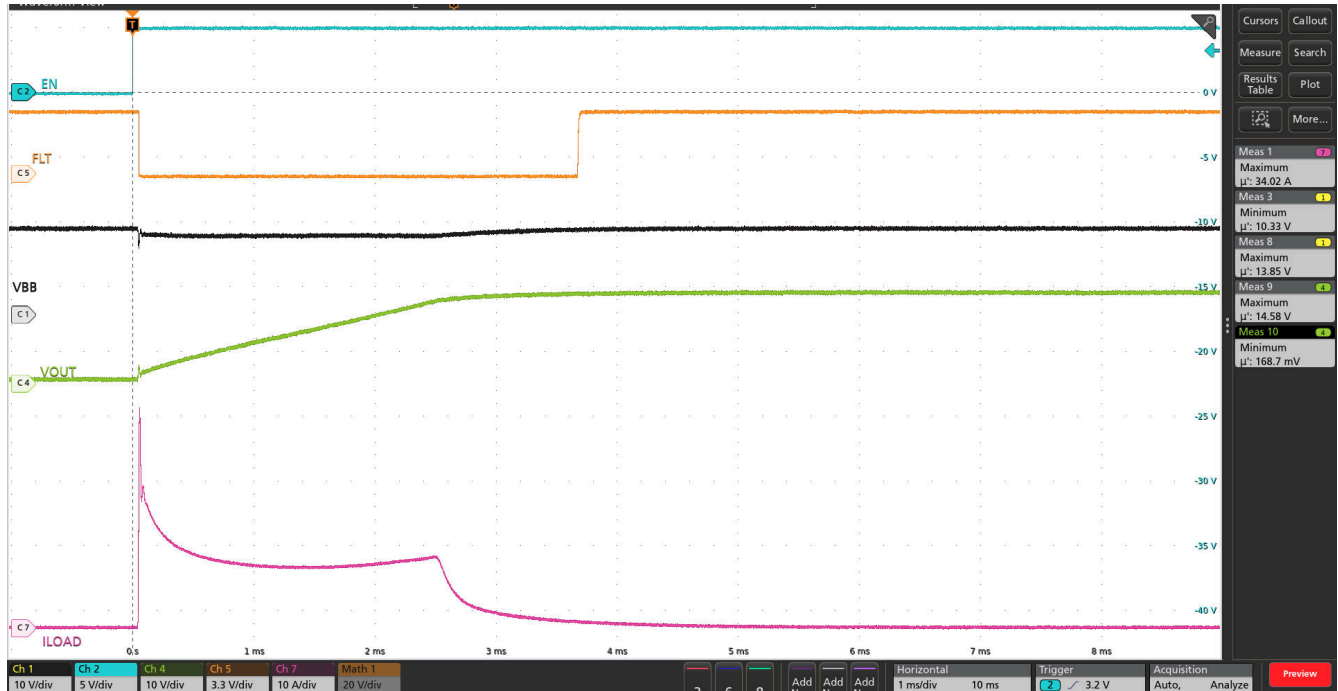

Figure 8-31. 2.67mF Capacitive Load Charging with TPS1HC03-Q1 Device at 13.5V VBB, ILIM Pin OPEN and 125°C Ambient Temperature
- **Expanded Capacitive Load Range:** The thermal-regulated current limiting significantly expands the range of capacitive loads that can be safely charged without triggering thermal shutdown, as shown in Figure 8-31. By dynamically adjusting current based on thermal conditions, the device can handle much larger capacitances than traditional high-side switches.